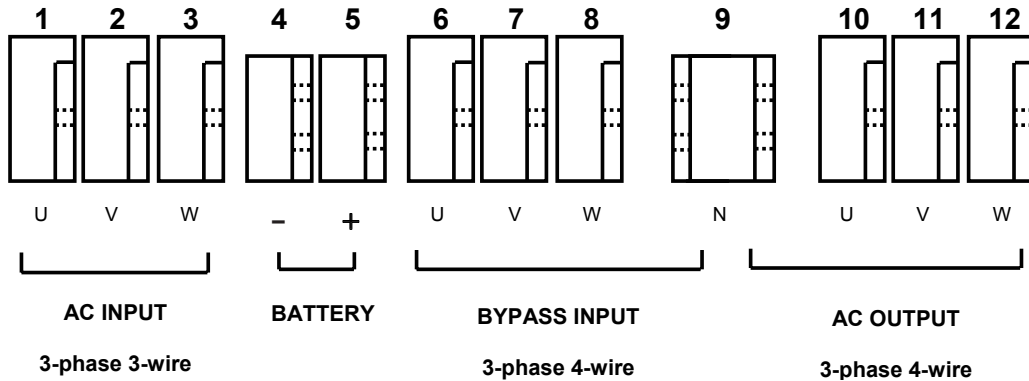

FIGURE 11.7 - TERMINAL BUSES OF THE 300 KVA UPS
Figure 11.7 shows the four (4) cable knockout plates provided at the top of the 300 kVA UPS. Seven (7) holes must be punched during installation. The dashed rectangle indicates the UPS opening behind the knockout plates.